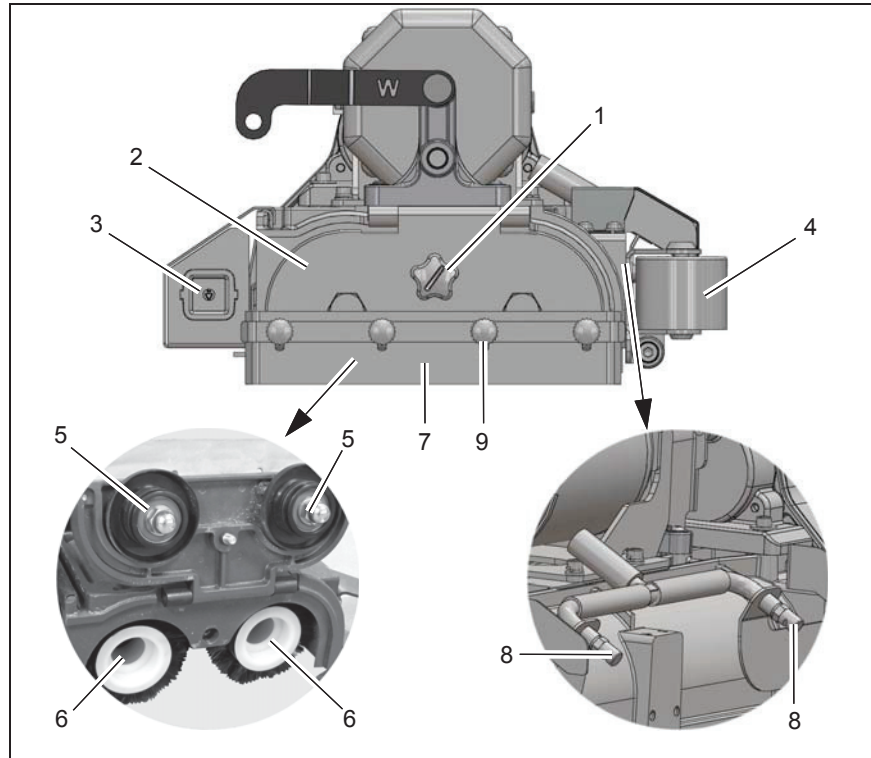

Fig.19
3. Loosen the slotted-head screw (Fig. 19/1) with a coin and pivot the cover (Fig. 19/2) upwards.
4. Remove the brushes (Fig. 19/6) from the brush head and clean them.
When installing the brushes, pay attention that they latch securely and properly in the catches (Fig. 19/5) provided.
4. Remove the brushes (Fig. 19/6) from the brush head.
2. Pivot the waste container (Fig. 19/3) down a little and pull it out of the brush head.
Check the sealing strips (Fig. 19/7) weekly and change them as necessary.
3. Loosen the knurled screws (Fig. 19/9) and remove the sealing strips with the tightening straps.
3. Check the spray jets (Fig. 19/8) for signs of dirt. After cleaning them, the spray jets must produce an even spraying pattern.
Check deflector rollers (Fig. 19/4) at weekly intervals and replace if required.